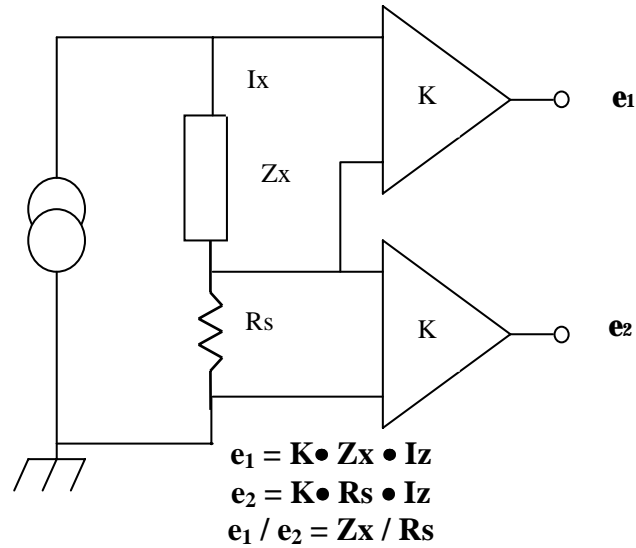

Figure 3-1: Primary Measurement Circuit
Figure 3-1 illustrates the primary measurement circuit. A sine-wave generator drives current (I_x) through the DUT (Z_x) and the standard resistor (R_s) in series with the DUT. Two differential amplifiers with the same gain (K) produce voltages e_1 and e_2 . The impedance (Z_x) is calculated by multiplying the resistance (R_s) by the potential difference between e_1 and e_2 . This ratio is complex. Both a magnitude and a loss are automatically calculated from Z_x and frequency.